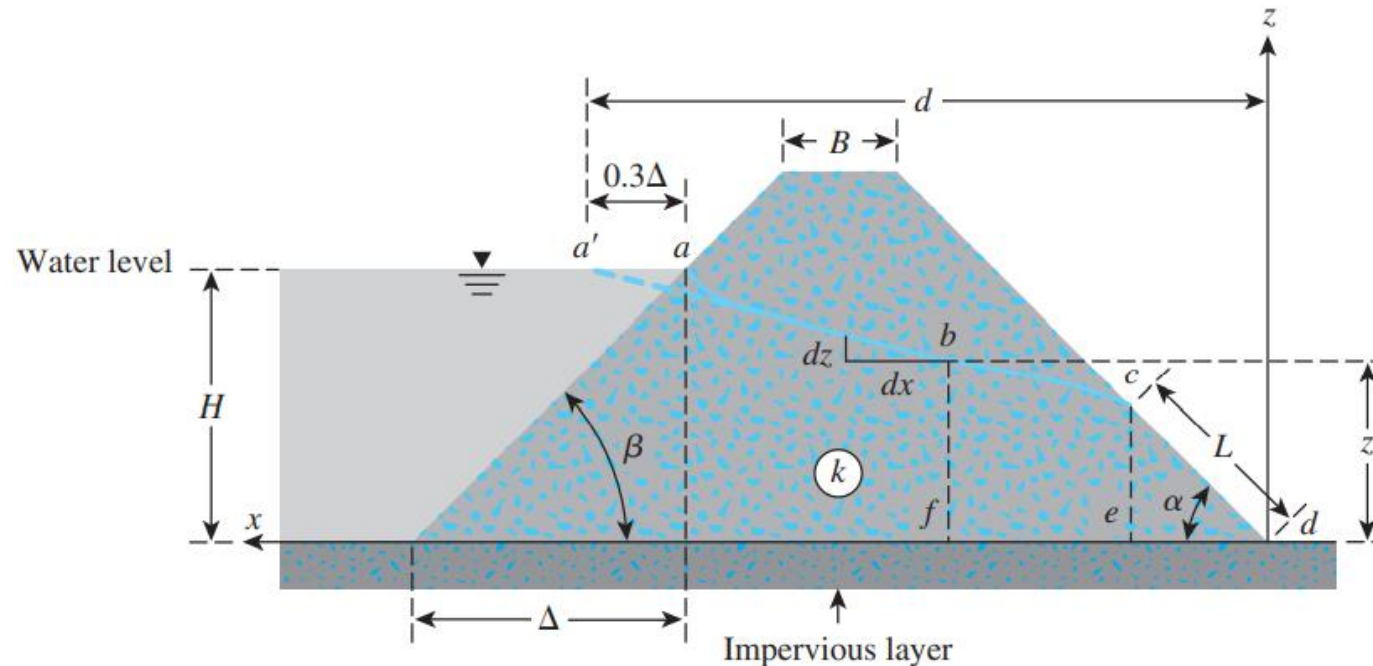

Figure 8.13 Flow through an earth dam constructed over an impervious base
2. Calculate Δ (Figure 8.13) and then 0.3Δ .